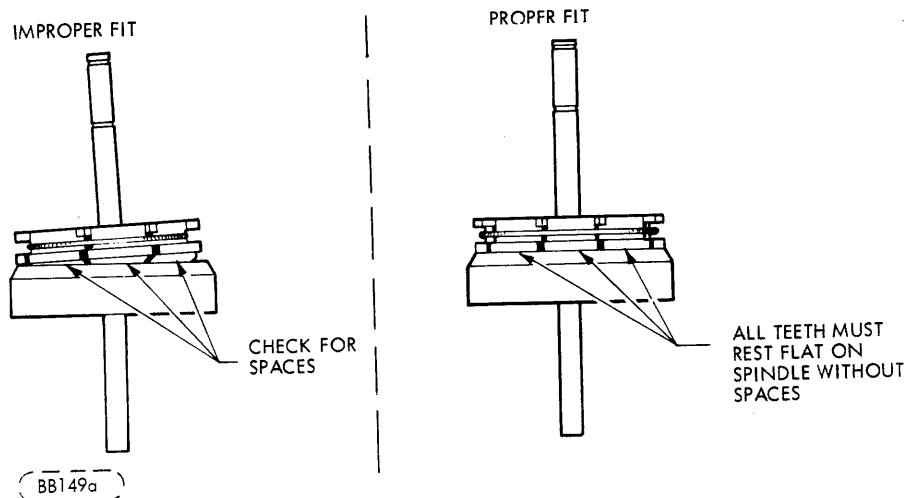

FIGURE 6-11. SPINDLE AND CONE
- c. Position chassis assembly by pushing down on the spindle cone shaft so cone seats in the spindle (Figure 6-11). Visually verify that all segments on the cone are fully seated in the spindle.